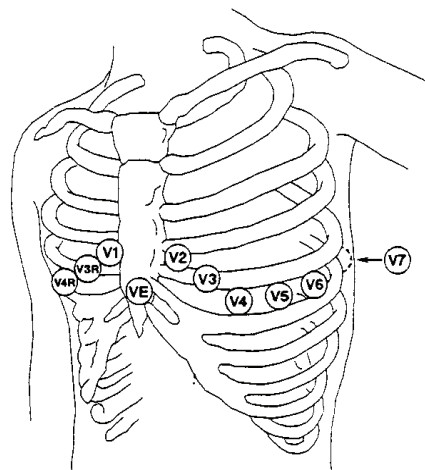

Figure 11-2 C-electrode Placement For 5-lead Set
- Red (R) electrode - Be placed near the right shoulder, directly below the clavicle.
- Yellow (L) electrode - Be placed near the left shoulder, directly below the clavicle.
- Black (N) electrode - Be placed on the right hypogastrium.
- Green (F) electrode - Be placed on the left hypogastrium.
- White (C) electrode - Be placed on the chest as illustrated in the F Figure 11-2.
For 5-lead set, attach the C-electrode to one of the indicated positions as below (Figure 11-2):